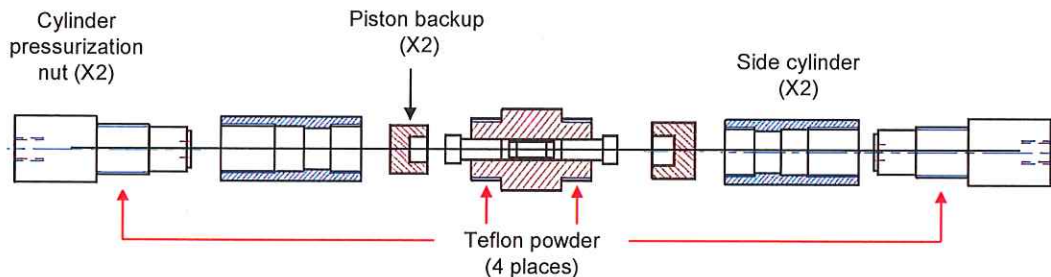

Fig 6 Applying teflon powder, piston backup, side cylinder, and pressurizing nut
- 4) Using a toothpick or small wire, apply a thin coat of teflon powder to the threads of the center cylinder (fig 6).
- 5) With the center cylinder held horizontally, place a piston backup on each piston (fig 6).
- 7) Coat the threads of the two cylinder pressurization nuts with teflon powder (fig 6).
- 8) Thread the cylinder pressurization nuts to the side cylinders finger tight (fig 6).